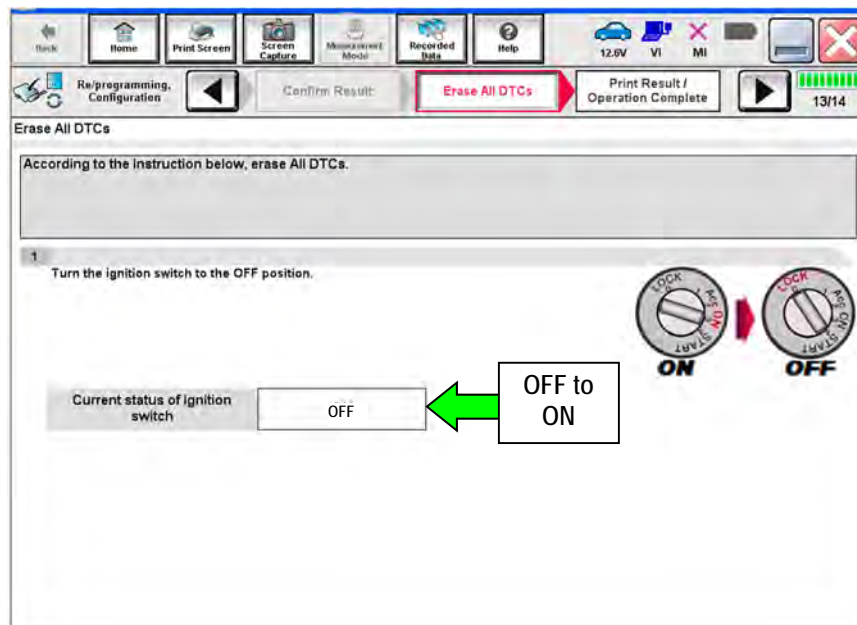

Figure 22
- The screen in Figure 22 will read ON after pressing the power switch twice.